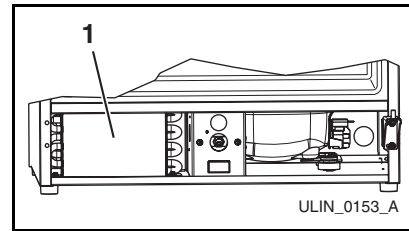

Figure 12
5. Clean the condenser coil (Figure 12, 1) using a soft brush with a "combing" action or vacuum cleaner. Do not touch the condenser coil.